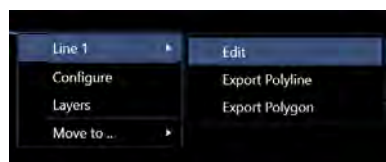

FIGURE 10-12 EDIT SURVEY LINE POP-UP MENU
- Right click on a survey line in the Map View to bring up the survey line Pop-Up menu (see Figure 10-12)